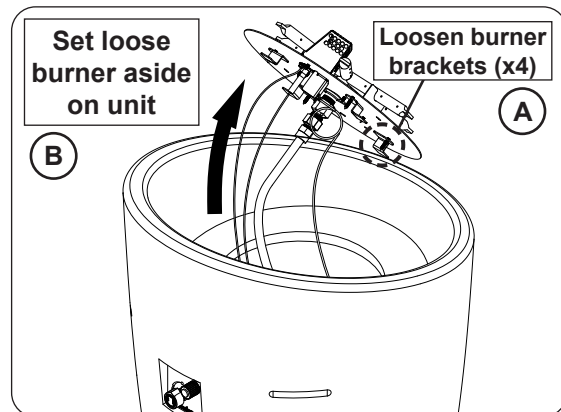

Fig. 19-3 Gain access to interior of unit (if needed)
For models without a storage door, use a $\frac{5}{16}$ " nut driver to loosen the 4 screws found on the burner assembly (see Fig. 19-3, A).
3. Carefully lift out the burner just enough to set it off to the side (see Fig. 19-3, B).